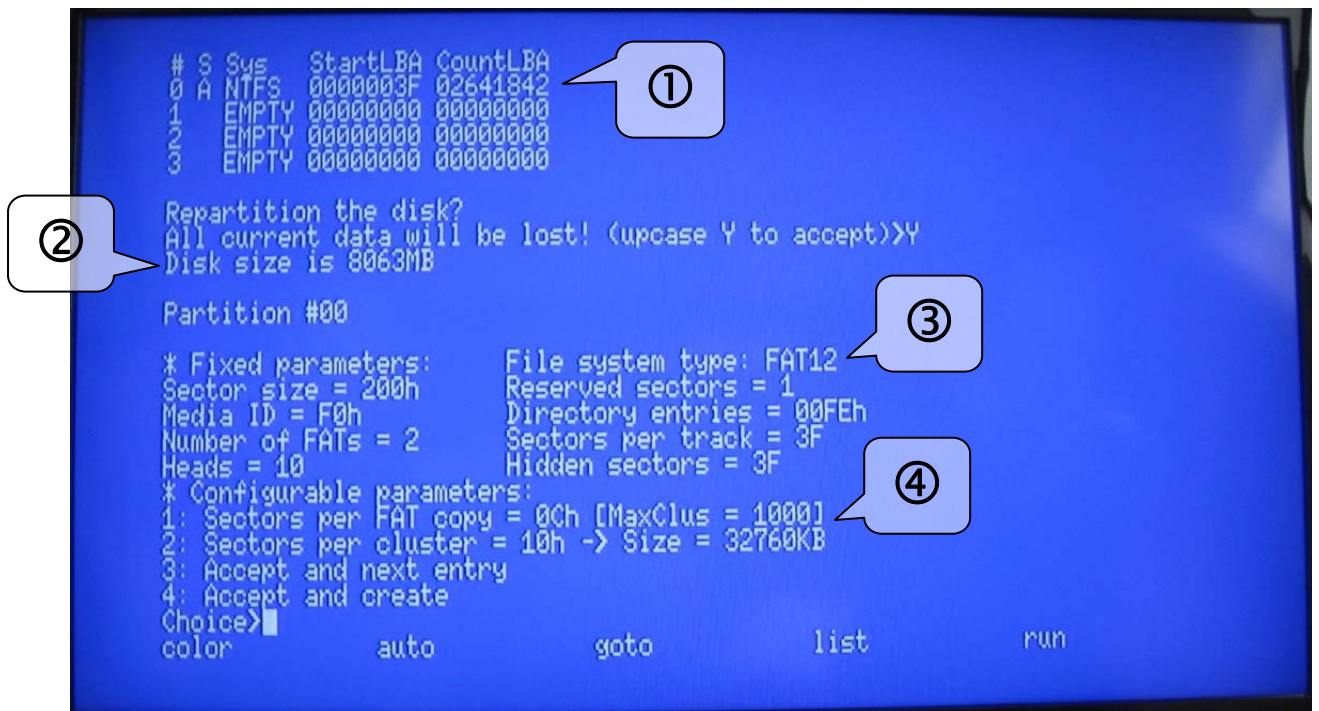

Figure 5.6. Further option selection dialogue of the GR8HDD
You select hard disk drive number, and have its partition listed (1 at fig. 5.6). Then you confirm that you want to proceed further, and get into the partition configuration menu. You see disk size listed (2), and note that it is maximal supported size in CHS mode and not actual hard disk drive size which can be larger. First partition will always be FAT12 (3).